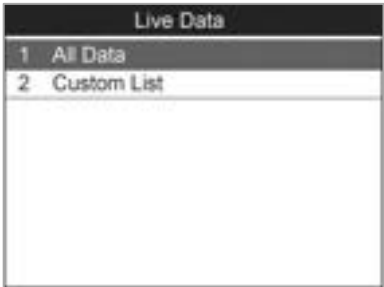

Figure 10.7
- 1) From the Live Data menu (Figure 10.7), use the **UP/DOWN** scroll button to select **All Data** and press the **OK** button.
- 1) To retrieve customized live sensor data, use the **UP/DOWN** scroll button to select **Custom List** from **Live Data** menu (Figure 10.7) and press the **OK** button.